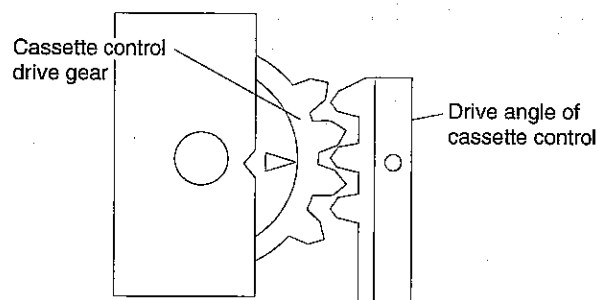

Figure 1-2.
1. Before installation of the cassette housing control assembly, make a short-circuit between TP8804 and TP8805, both located at the center on your side on the VCR PWB, with a 22 ohm resistor. Plug in the power cord. The cassette control drive gear starts and stops just when a tally mark appears in the mechanism chassis window. Align this tally mark with the cassette control drive angle's mark, as shown in Fig. 1-2, to position the cassette control on the mechanism chassis.